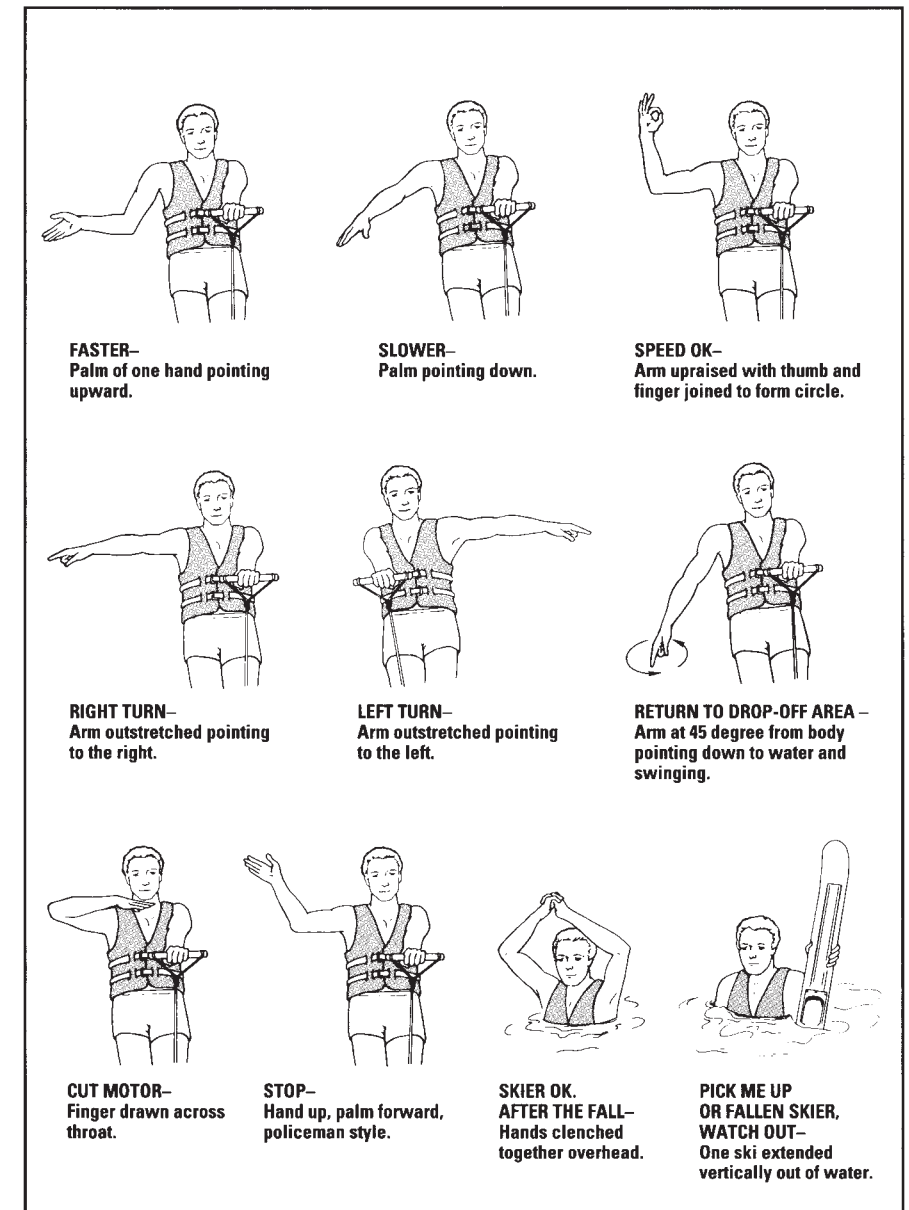

FIGURE 2-14 WATER SPORT SIGNALS
5. Have a second person aboard to observe the person being pulled and inform the driver about that individual’s hand signals (Figure 2-14). The driver must give full attention to operating the boat and the waters ahead.